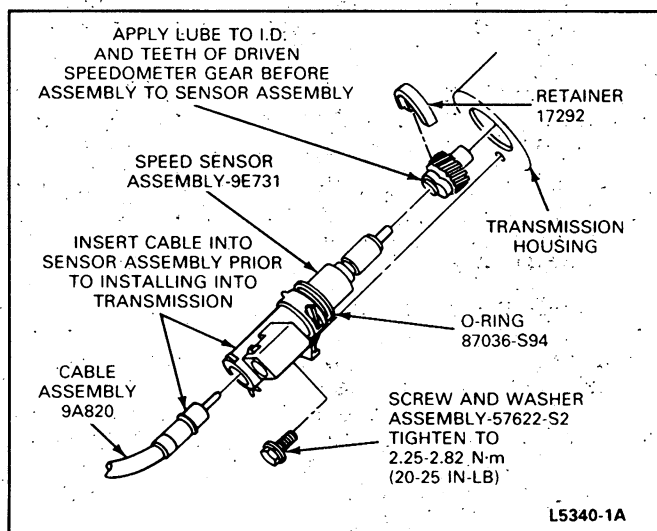

FIG. 20 Speed Sensor Installation—E-150—E-350
2. Disconnect speedometer cable from speed sensor (Fig. 20).